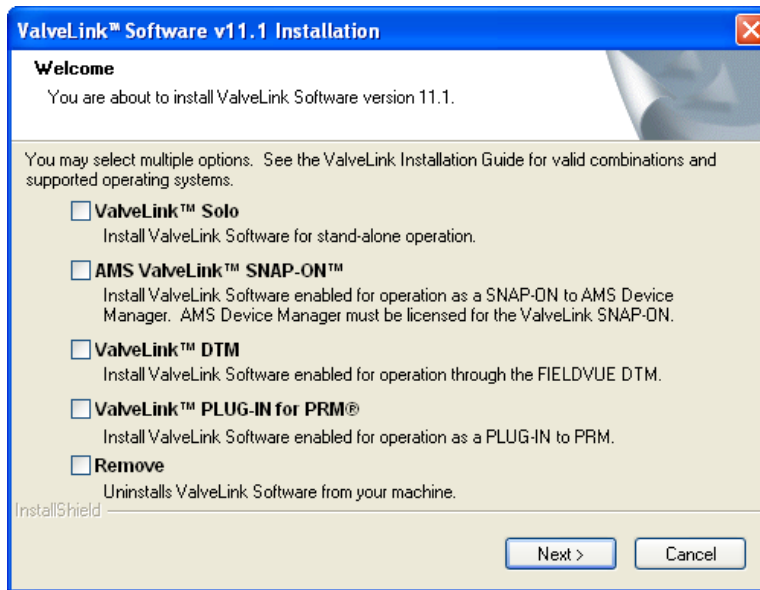

Figure 2-1. ValveLink Software Installation Welcome Window
At the beginning of the installation process, you can specify how you want the software installed. Refer to figure 2-1 for the ValveLink Software Welcome Window.
**Step 3:** In the ValveLink software installation Welcome window displays as shown in figure 2-1 select the desired installation(s) and click Next to continue.